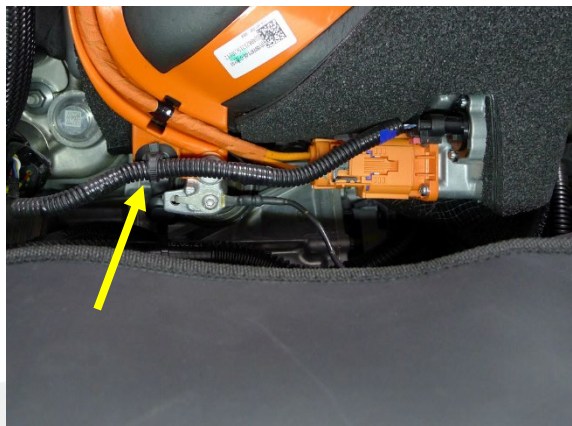

Figure 7
9. Release the clip that attaches the A/C compressor LV logic harness to the A/C compressor HV harness bracket (Figure 7).